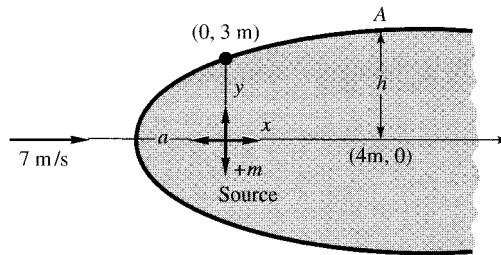

Fig. P8.31
- 8.31** A Rankine half-body is formed as shown in Fig. P8.31. For the conditions shown, compute (a) the source strength  $m$  in  $\text{m}^2/\text{s}$ ; (b) the distance  $a$ ; (c) the distance  $h$ ; and (d) the total velocity at point A.